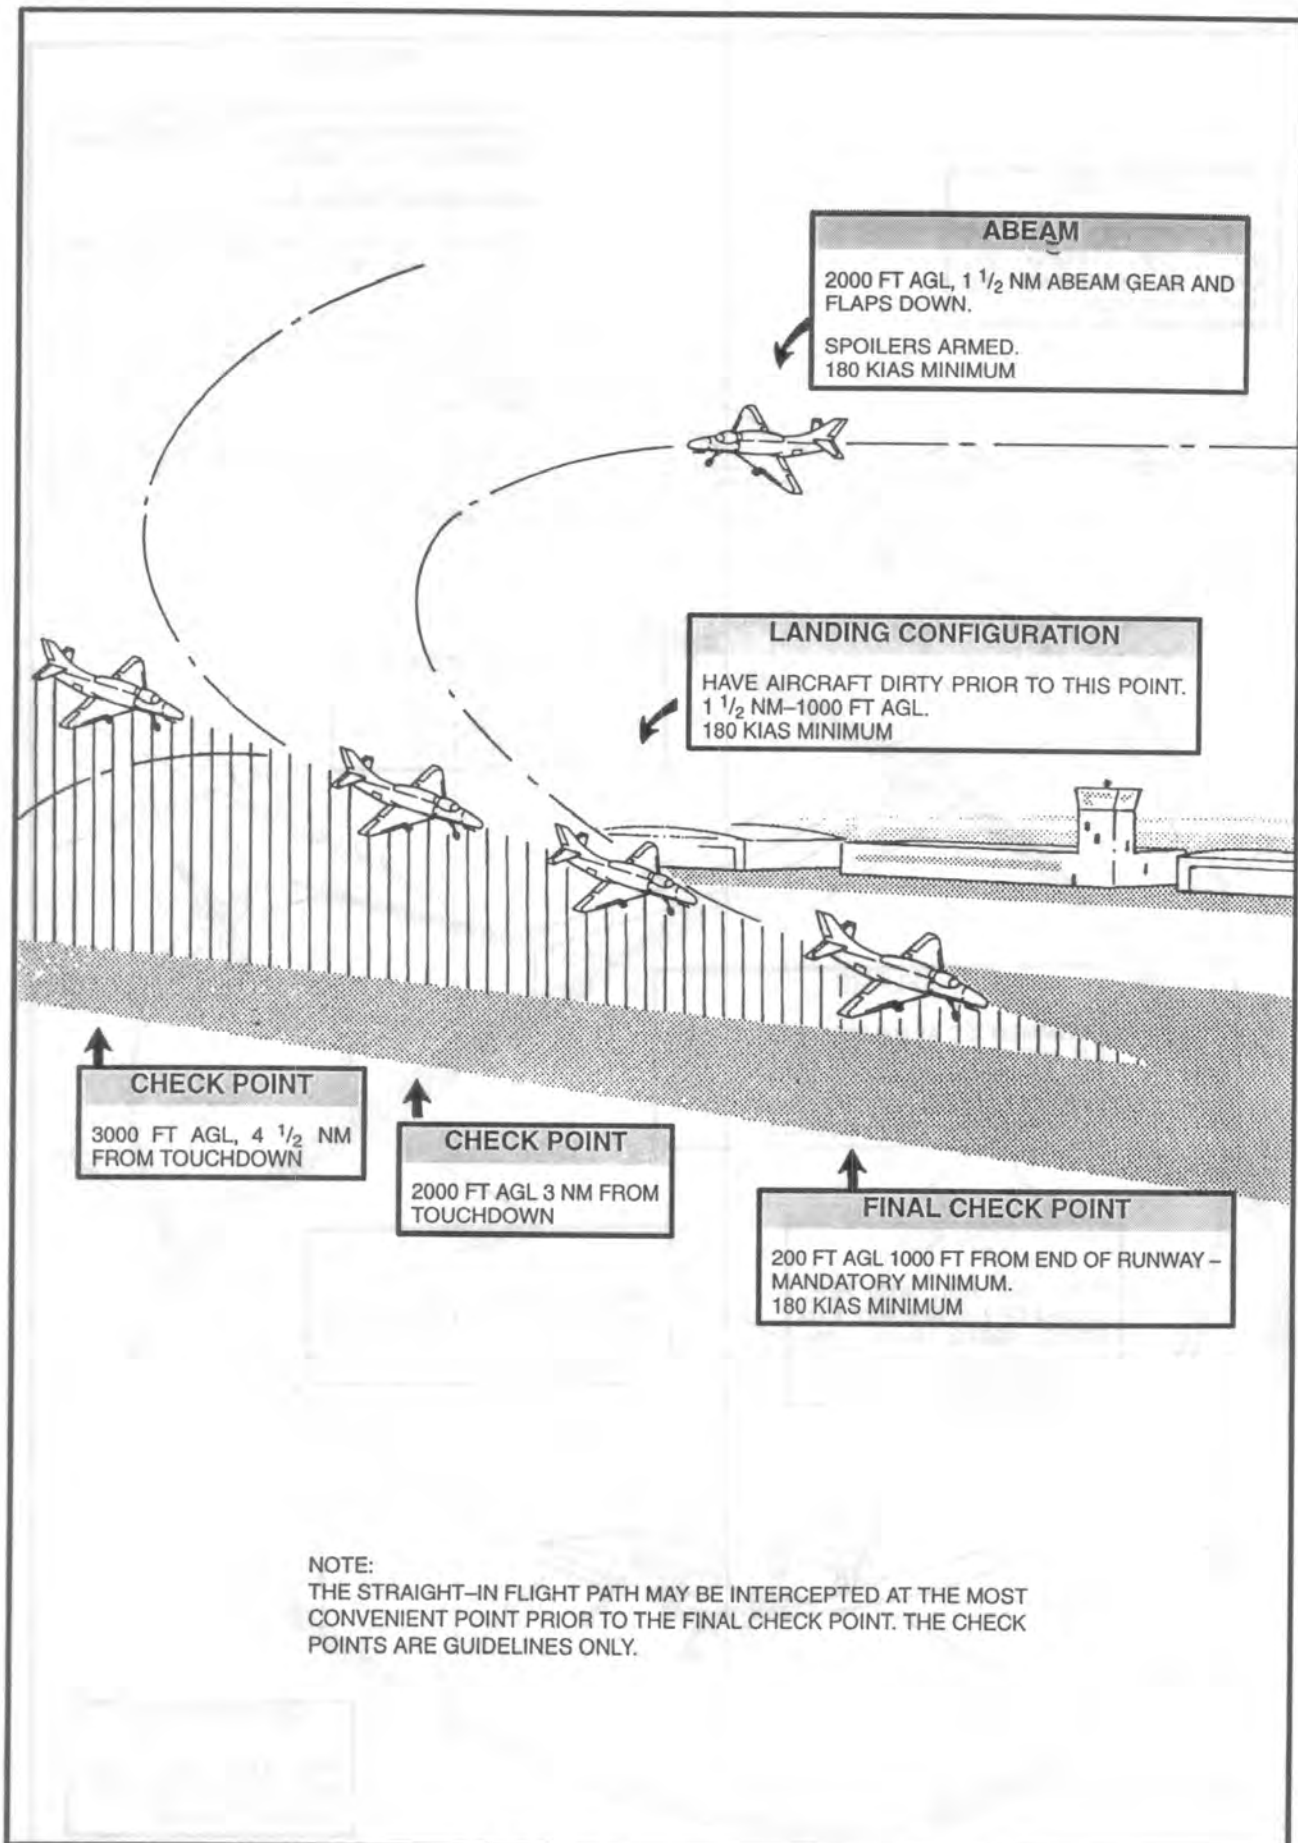

Figure 5-5 Low Precautionary Approach
5.58 The LPA is depicted in Figure 5-5. It may be used whenever circumstances make it desirable; such as loss of oil pressure or other engine malfunctions which make it undesirable to reduce RPM. The variations in pattern entry and altitude allow a wide margin of flexibility. An 8000 foot runway is the minimum recommended. Select a field with crash equipment and arrestor gear, if practicable.